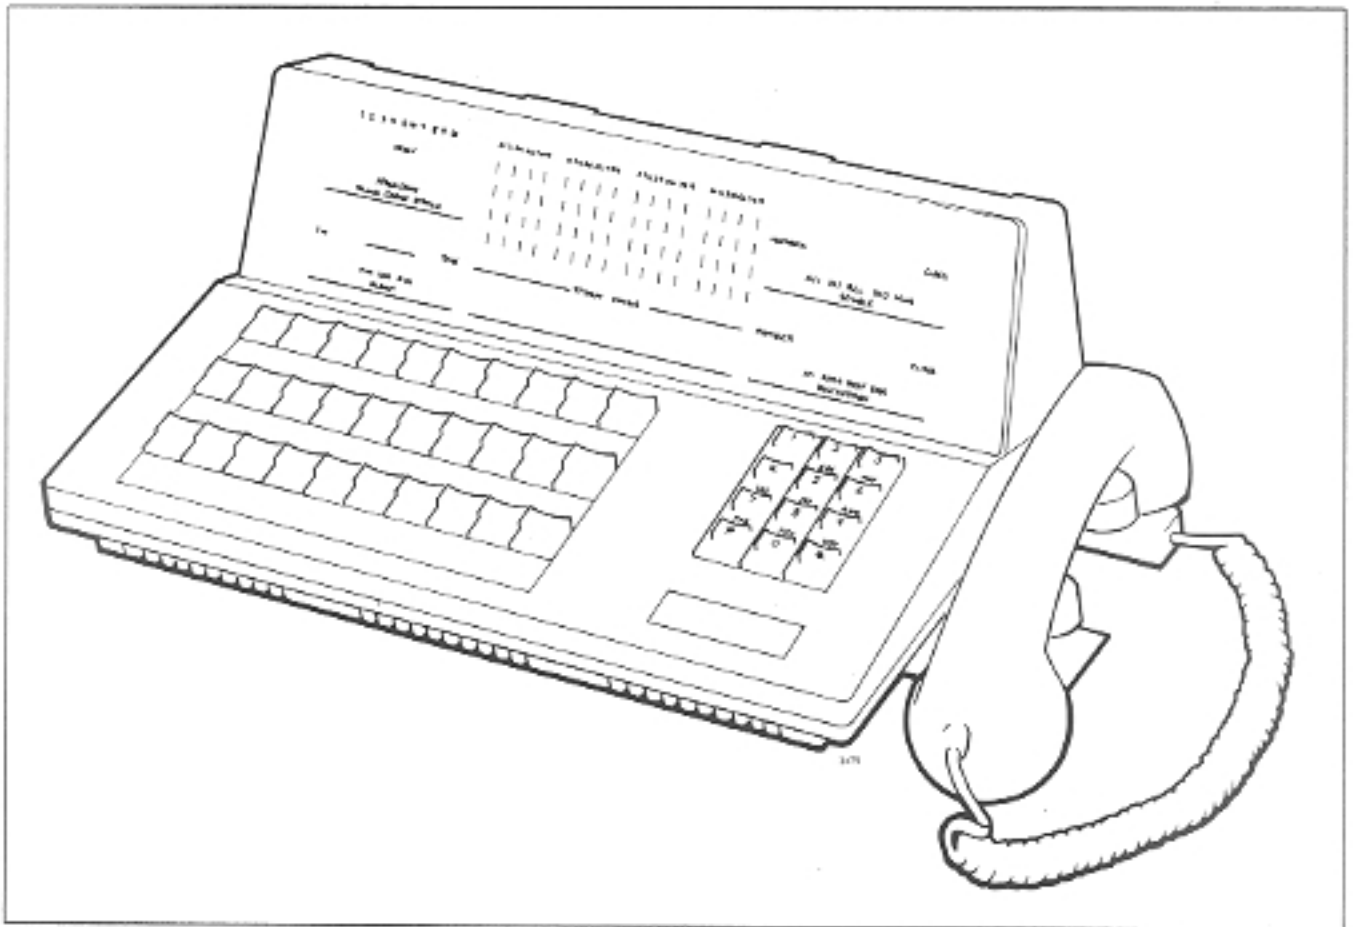

Fig. 2-6 Attendant Console
2.17 The SX-100 attendant console (Fig 2-6) is enclosed in a housing with a smoked plastic faceplate. Located on either side of the console are a pair of headset/handset jacks allowing simultaneous operation and supervision. The console keyboard holds three rows of ten